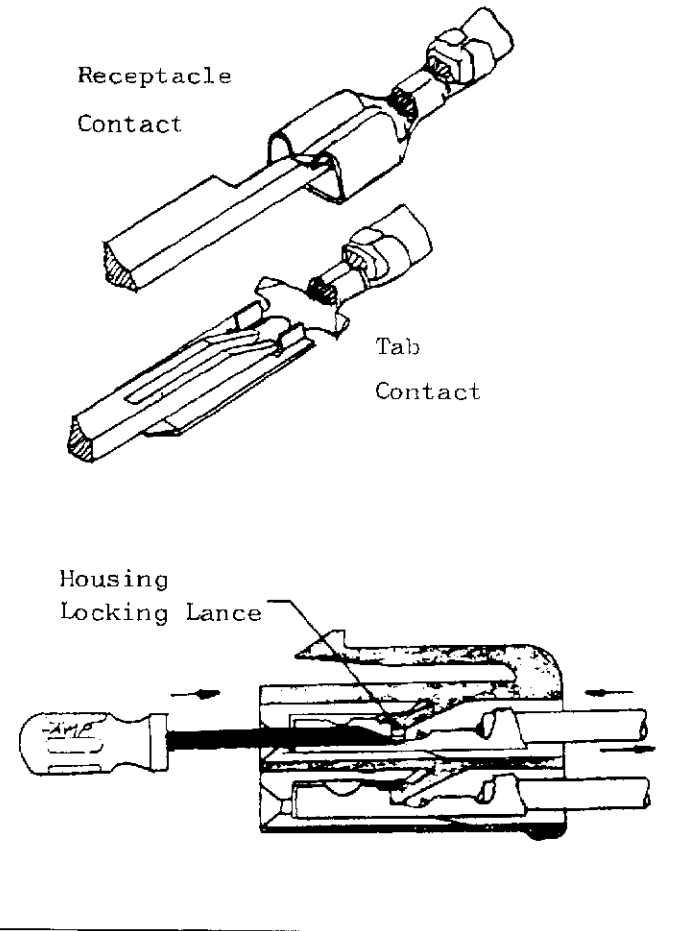

Fig. 1
- a) As you determine which contact to extract push back the wire of contact into the cavity by the fingers, and hold it in position. This will make the contact placed freely in position without firm hooking action of housing lance. (See Fig. 1.)
- b) Insert tip end of tool into the cavity of the contact you are to extract, from the mating side of housing, until the tip end butts against the contact, raising up the housing lance by the tapered tip surface. (See Fig. 1.)